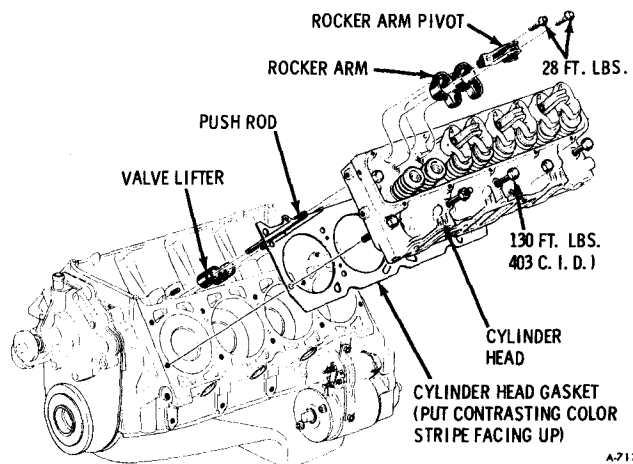

Figure 21—Removing Rocker Arms
2. Remove rocker arm flanged bolts, pivot and rocker arms (figure 21).